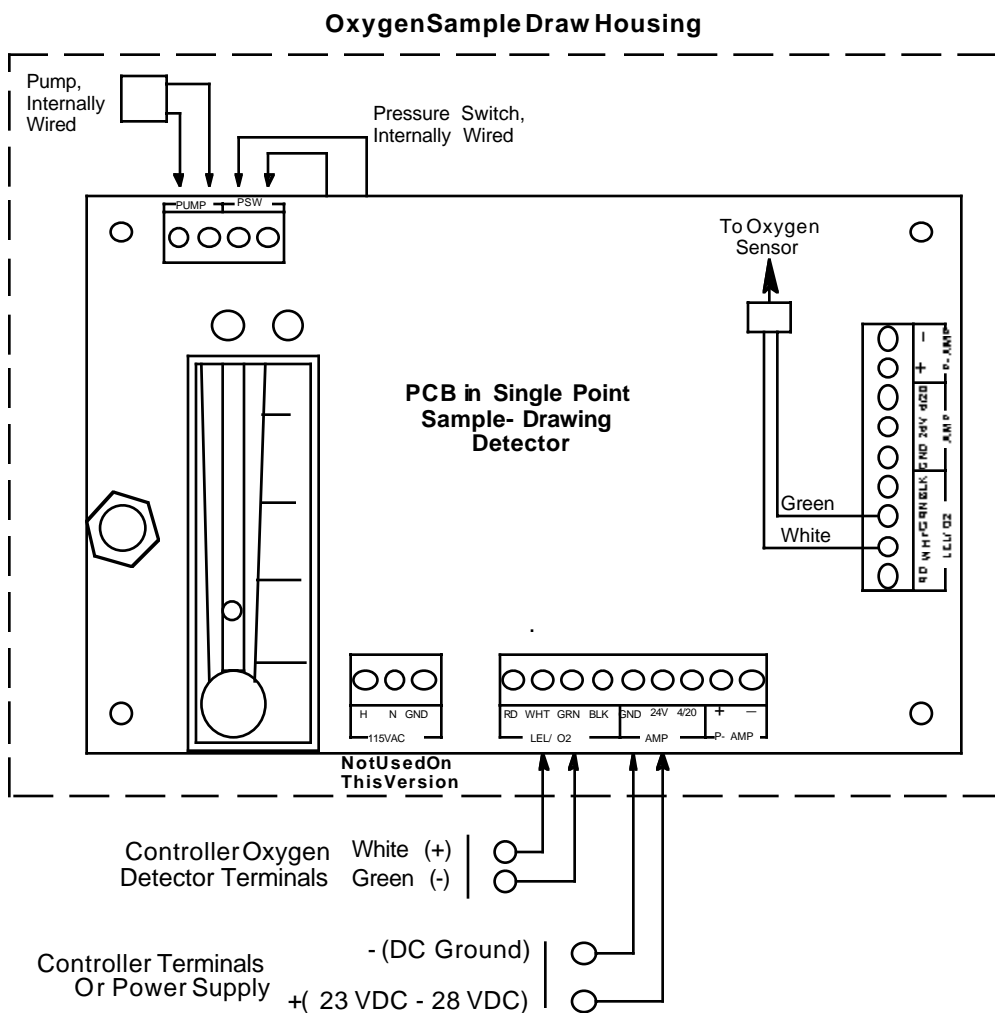

Figure 4: Wiring the Sample-Draw Oxygen Detector to a Controller
5. Connect the cable to the sample-draw detector’s interconnect terminal strip as shown in Figure 4.
8. Connect the wires to the applicable detector terminal strip and power terminals at the controller as shown in Figure 4.